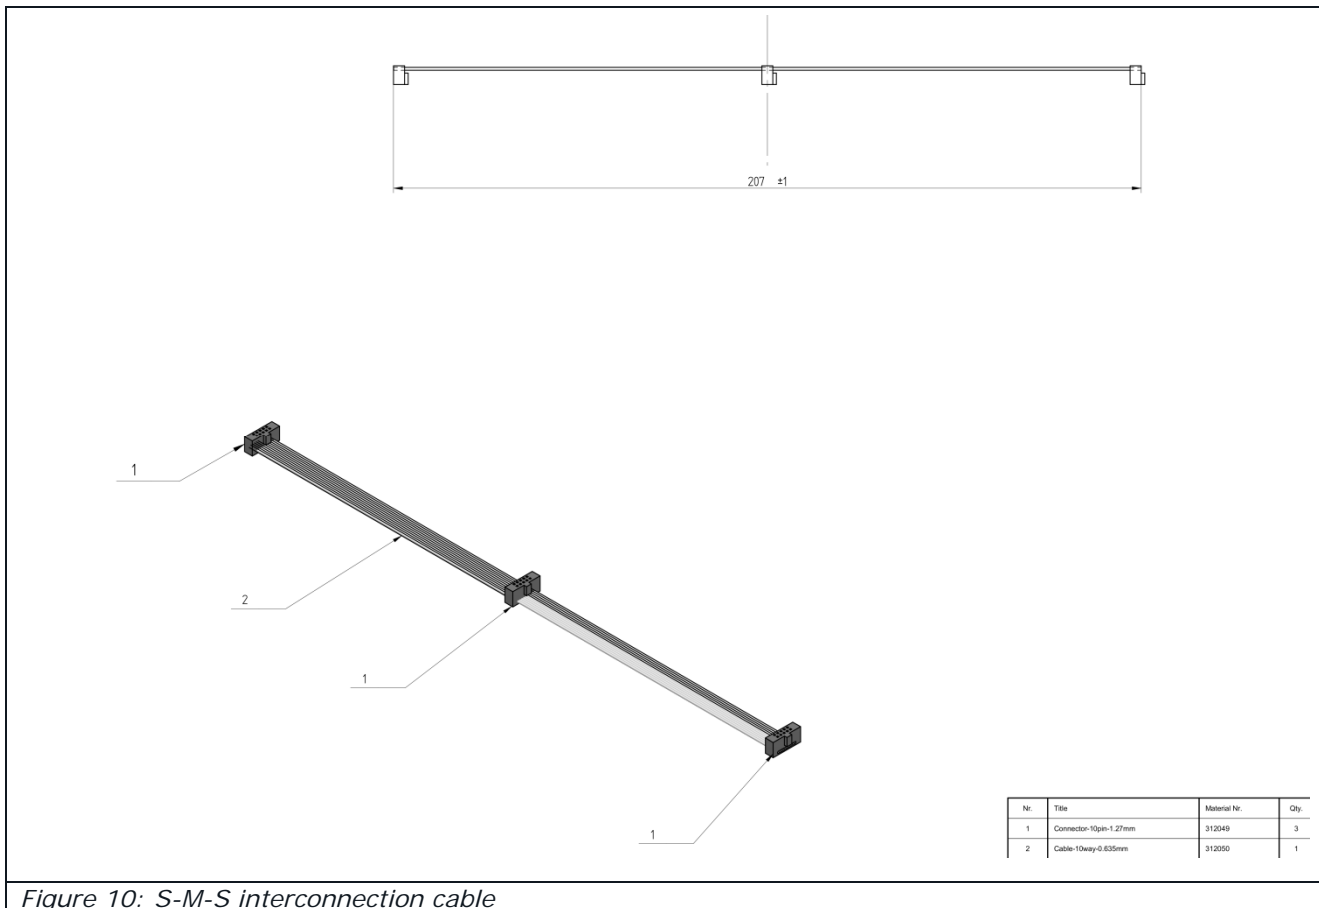

Figure 10: S-M-S interconnection cable
**Figure 10** shows the 10 wired interconnection cable. The total length of the cable is 207+/-1 mm, with a symmetrical assembling of the connectors.